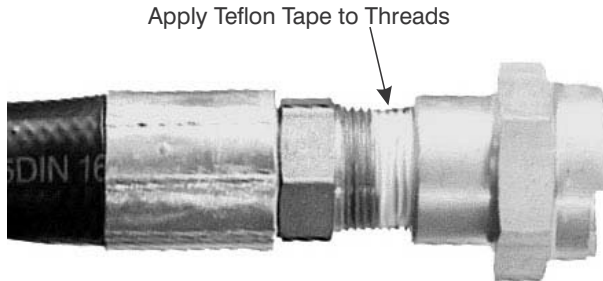

Figure 11-5. Apply Teflon Tape
3. At both ends of the Whip Hose, wrap the threads of the hose fittings with teflon tape as shown in Figure 11-5.